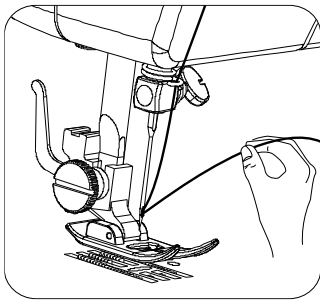
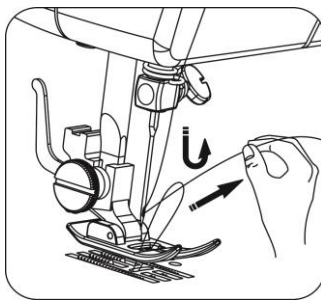

Fig.12
Fig.13
- 3) Lift up the presser foot lifter. Hold the end of the upper thread with one hand, and turn the hand wheel counterclockwise a round with the other hand to make the needle go down and up, the needle thread will pick up the bobbin thread and pull it up through the hole under the needle (Fig.12 & Fig.13).